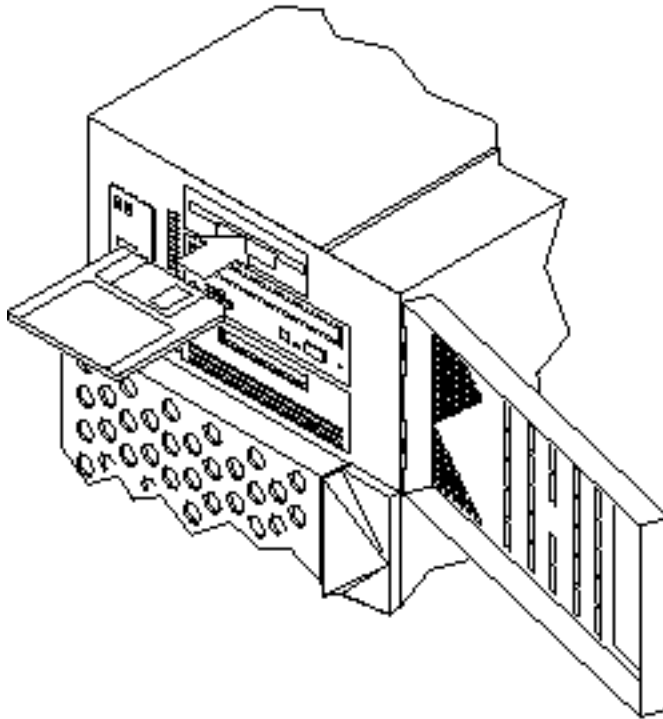

Figure 1-8 Inserting the Configuration Diskette
11. Insert the configuration diskette into the diskette drive at the front of the Netra 150 server (Figure 1-8).